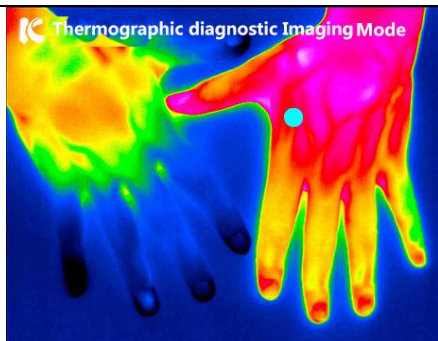

Figure 27. Thermographic diagnostic Imaging mode
STEP 1: Open the display interface of “QtScrcpy”, switch to the system homepage interface and click the up arrow in the red box (as shown in the Figure 27 below) ;